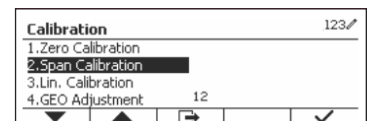

Figure 9
2. Press the softkey corresponding to the ✓ icon to enter the Calibration submenu. (See Figure 9)